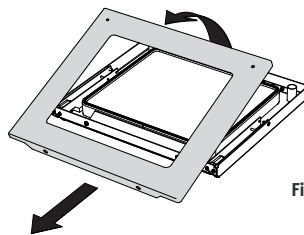

Fig. 72
- Swivel open the oven door panel on the handle side and move it forwards to remove it (Fig. 72).